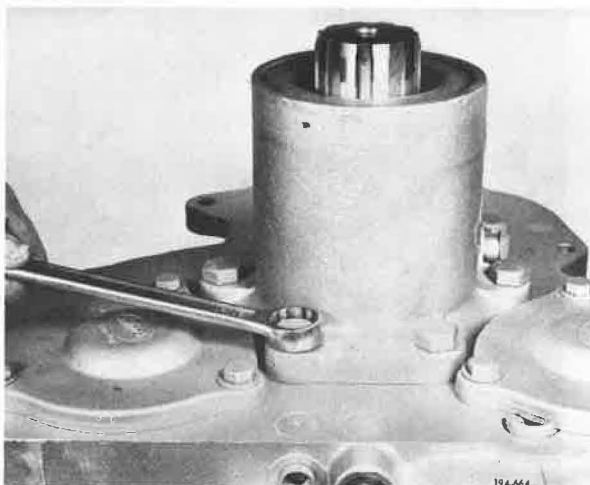

Figure 5-715. Removing Capscrew
3. Remove rear mainshaft rear bearing cover capscrews. See **Figure 5-715**.